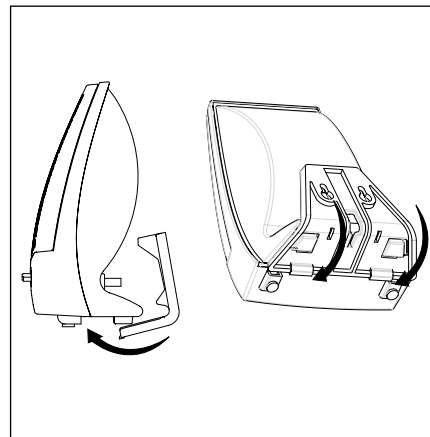

Figure 9
- For Satellite speakers: Hold the bracket for the speaker you are planning to wall mount up to your chosen location (before you snap it onto the speaker). For Center Channel Speaker: use the mounting template (included). Be sure to orient it so that the small ends of the keyhole slots are facing “up” according to the direction of installation. Using the keyhole slots in the bracket as a template, mark the installation location of the keyhole slots with a pencil [figure 9].